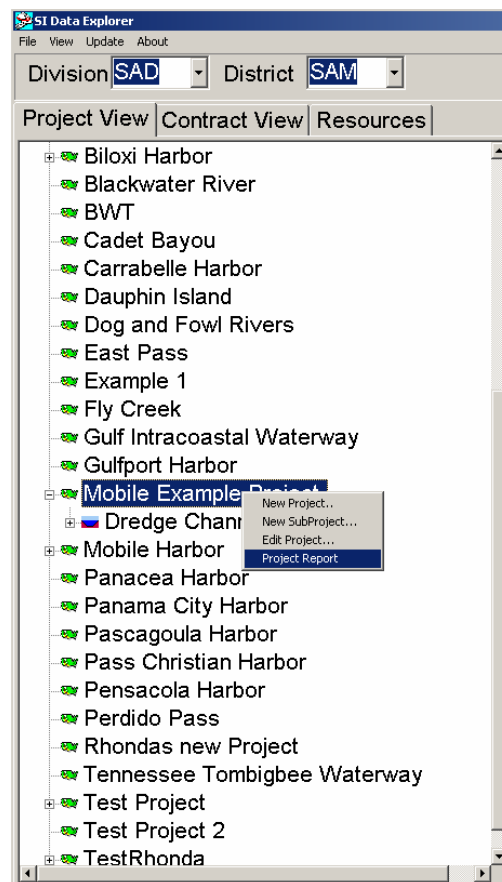

Figure 1.50 Project Report.
1. Right click on the project as shown in Figure 1.50 and select **Project Report**.